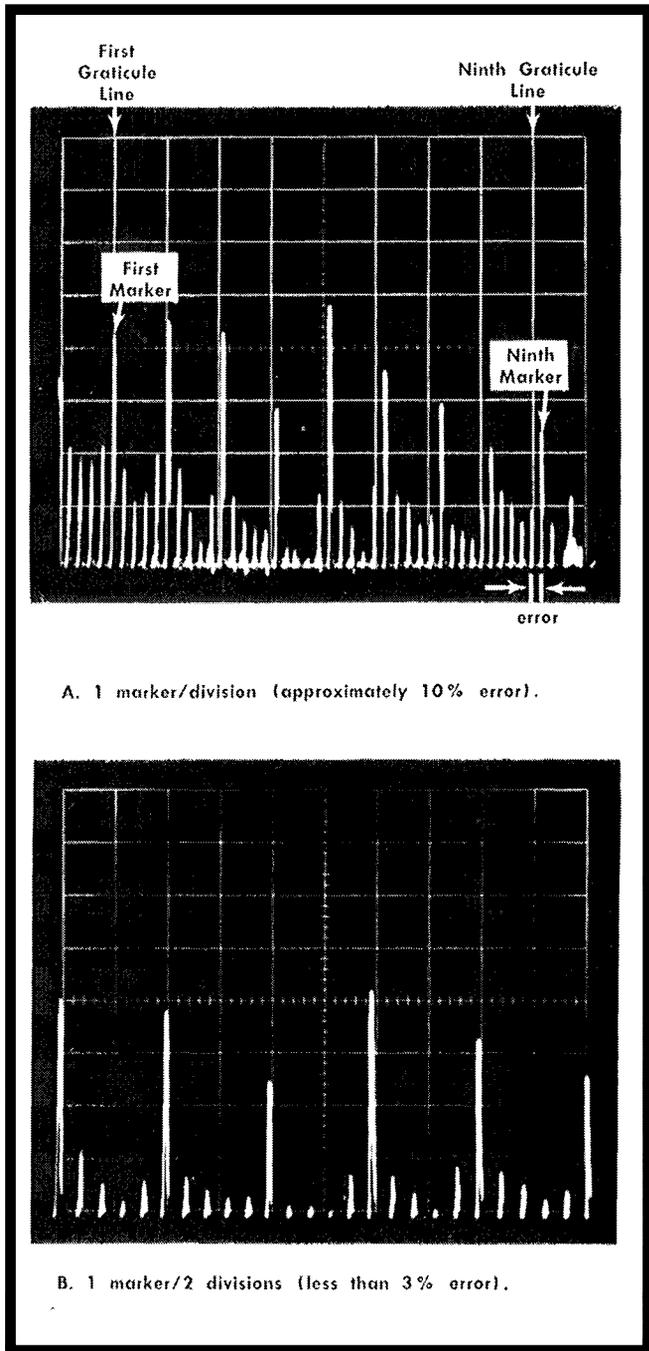

Fig. 6-20. Measuring dispersion accuracy.
Dispersion accuracy is a measure of the frequency dispersion error within 8 divisions of a 10 division display. It is measured by positioning the 1st frequency marker on the 1st graticule line, then noting the dispersion error as the distance the 9th marker is displaced from the 9th graticule line. See Fig. 6-20.
- c. Adjust the Type 491 GAIN control for a display amplitude of approximately 6 divisions. See Fig. 6-20. Set the SOURCE switch to LINE and adjust the LEVEL control for a triggered display.